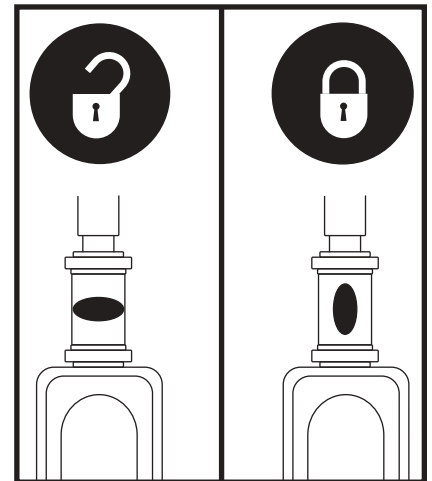

Figure 36. Tiller Lock Knob
2. Lock the tiller in the straight ahead position by pushing the tiller lock knob in and turning it clockwise 90°. See figure 36. The front wheel must face forward in order to lock the tiller.
1. Remove the key from the key switch and then lock the tiller in the straight ahead position by pushing the tiller lock knob in and turning it clockwise 90°. See figure 36. The front wheel must face forward in order to lock the tiller.
2. Once the frame hooks are over the lower frame tube, lower the front section and pivot the rear section simultaneously. This will engage the frame lock-up automatically for models AAP4, 39, 40, 44, 40LX, 40X, 44X, 40E, 402E, 44E, 442E, 443E, 443EMS, 44LX, 49, 493, 50LX, 50LXLIT, 53, 53HD, 54, 54LX, 54LXLIT, 54ALX, 54HD, 66, 67, 73, 74, and Jazzy ZTS. For models 29, 36, 336, 83, and 84, you will also need to reinstall the frame lockup pin to complete the body assembly. **See figure 36.**
6. Unlock the tiller by turning the tiller lock knob 90° counterclockwise. **See figure 36.**